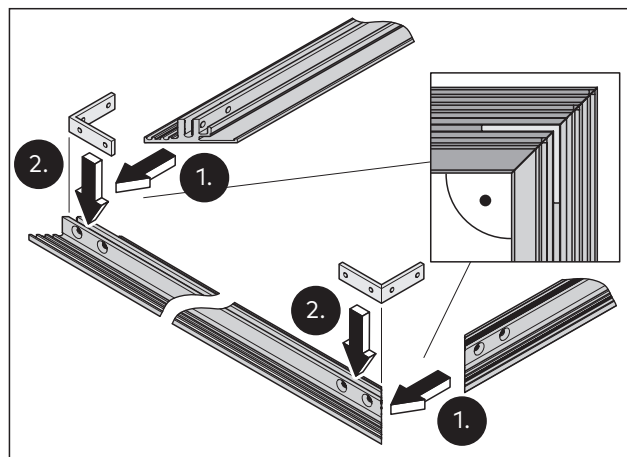

Fig. 28 Place the brackets in the base profile for the door frame
1. Prepare the base profile for the door frame in the 90° bracket for pre-mounting (Fig. 28).